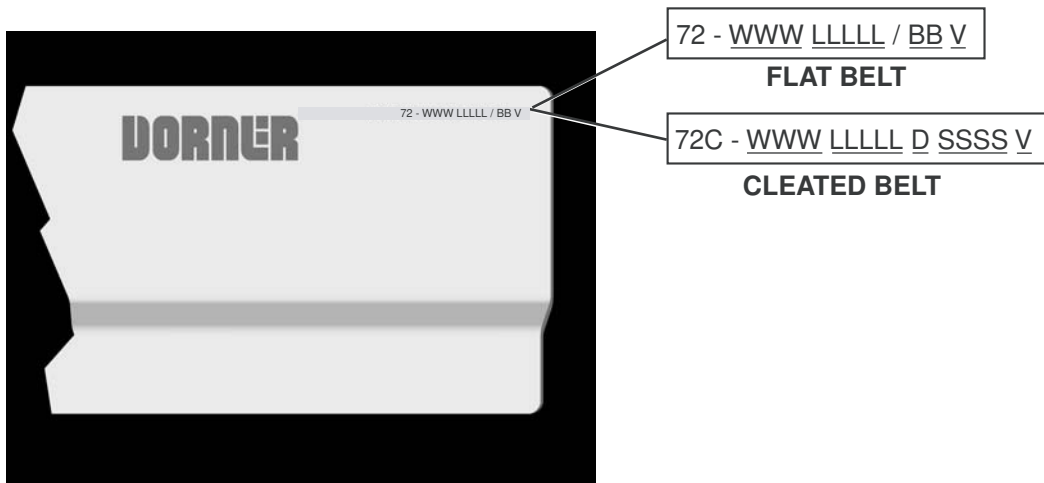

Figure 87
Refer to model number on the conveyor frame (**Figure 87**). From the model number determine the conveyor width (WWW), length (LLLLL) and belt type (BB). Use data to configure belt part number as indicated below. *Add “V” for v-guided belts or add “VG” for 06, 08, 57, 59, and 64 v-guided belt types.
Refer to model number on the conveyor frame (**Figure 87**). From the model number determine the conveyor width (WWW), length (LLLLL), cleat type (B) and cleat spacing (SSSS). Use data to configure belt part number as indicated below. *Add “V” for v-guided belts.